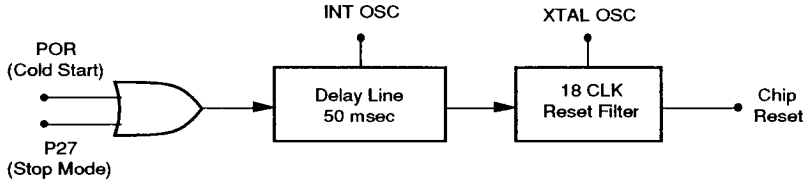

Figure 6. Internal Reset Configuration
**Reset.** Upon power up the power-on reset circuit waits for 50 msec plus 18 crystal clocks and then starts program execution at address %000C (HEX ) (Figure 6). Reference the Z86C08 control registers' Reset value (Table 2).